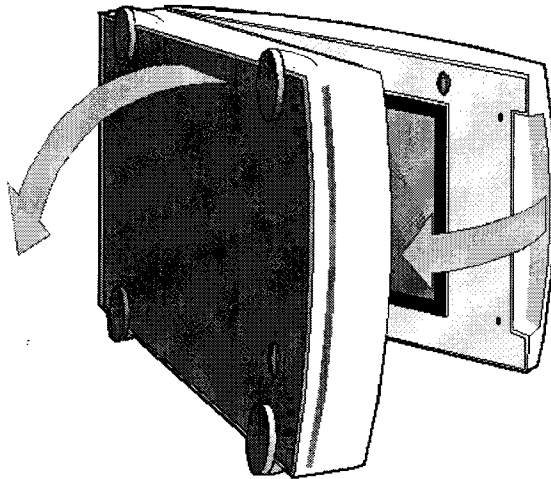

Fig. 2.3
3. Move the transparency module towards the body and turn the densitometer upright (Figure 2.3).